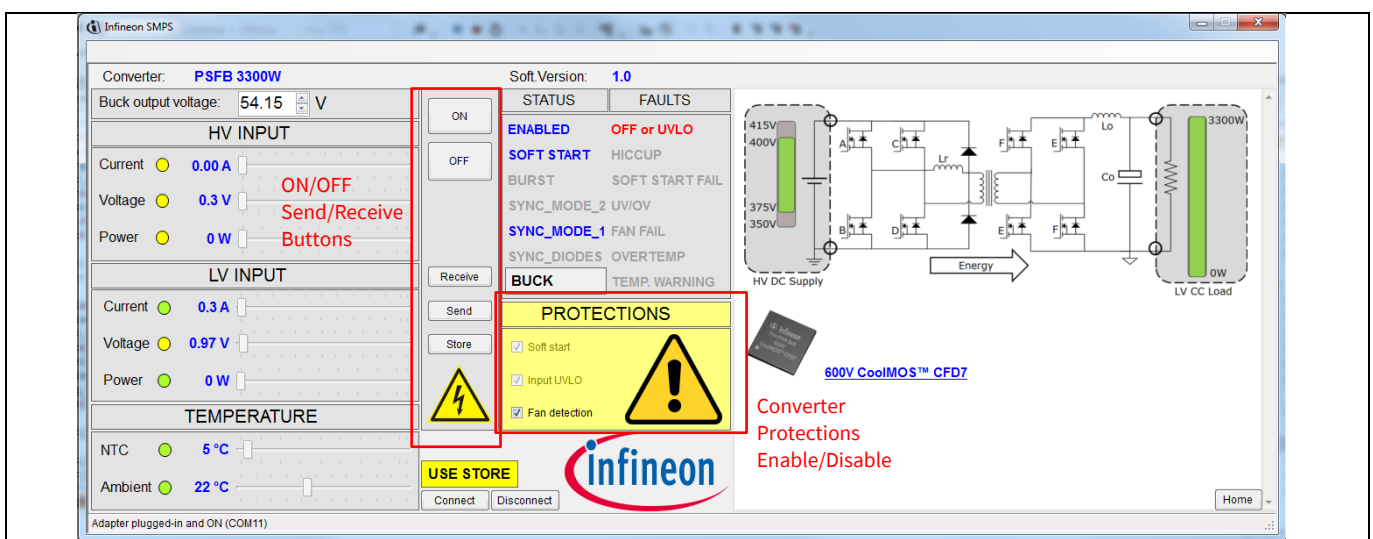

Figure 9 Use the “Store” button to permanently store new parameters in the Flash memory of the controller
2. Click the “Store” button (Figure 9). The new output voltage setting is stored in the Flash memory of the controller card; it won’t be lost after the converter turns off.